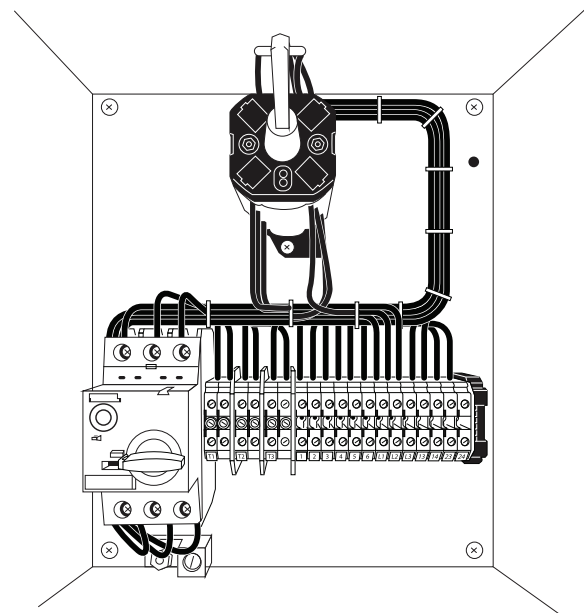

Fig. 128 — MMS on DIN Rail Assembly
2. The MMS is located on the DIN rail assembly. See Fig. 128. Record which wires are connected to the MMS. Then carefully remove the wires from the MMS.